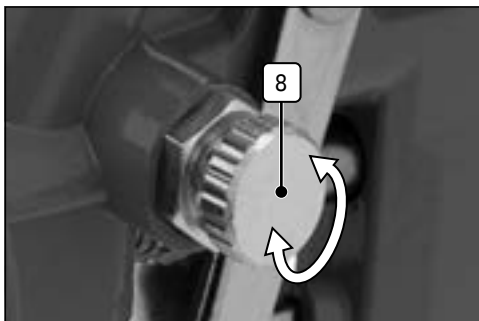

Fig. 11
The spray control dial (8) adjusts the shape of the paint jet released from the nozzle. The spray control dial can be rotated more than 360° (Fig. 11).